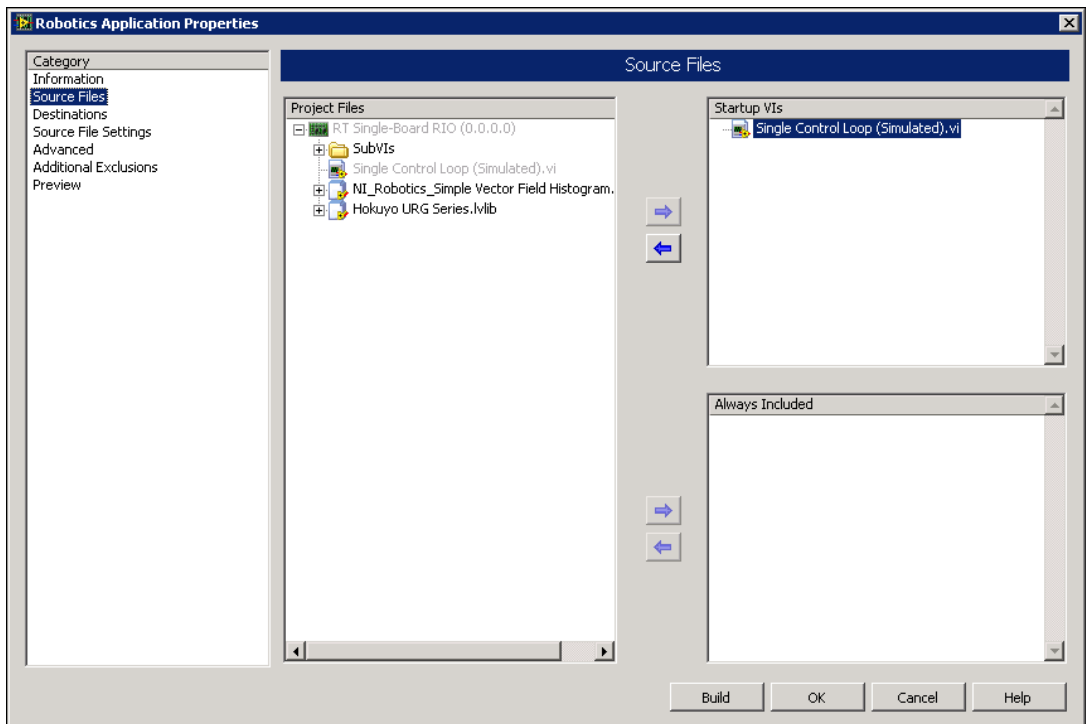

Figure 10. Selecting a Startup VI
5. From the **Project Files** tree, select the `Single Control Loop (Simulated).vi`, located under the RT target, and click the right arrow button to move the VI into the **Startup VIs** list, as shown in Figure 10. VIs in the **Startup VIs** list execute when you launch the application.